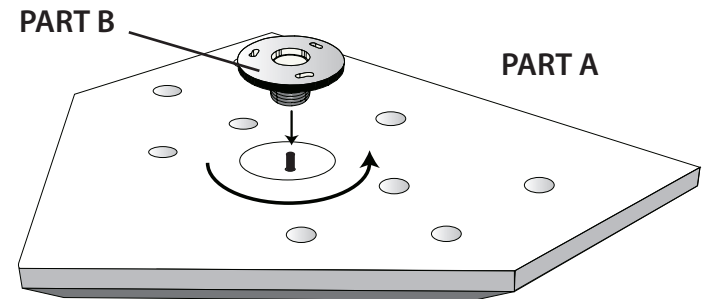

FIGURE 2
**STEP 2** - Turn **PART A** upside down and insert **PART B** into the center recess and align the lock holes with the three prongs of **PART C** as shown in *Figure 2*.